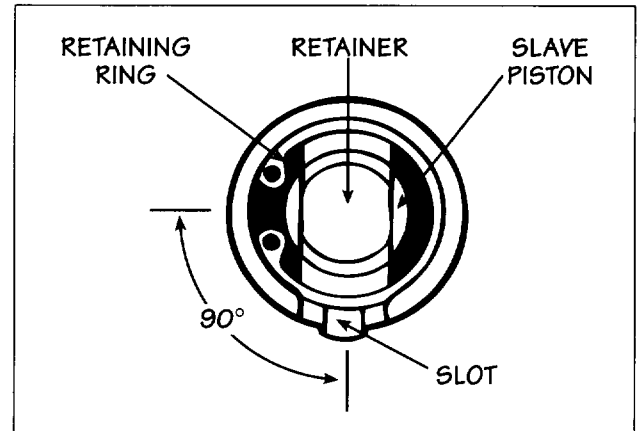

FIG. 25
8. Compress the slave piston springs down until the retainer is about 0.040" (1 mm) below the retaining ring groove. Reinstall the retaining ring. Be sure the retaining ring is fully seated in the groove. Rotate retaining ring about 90° away from slot in housing (Fig. 25).